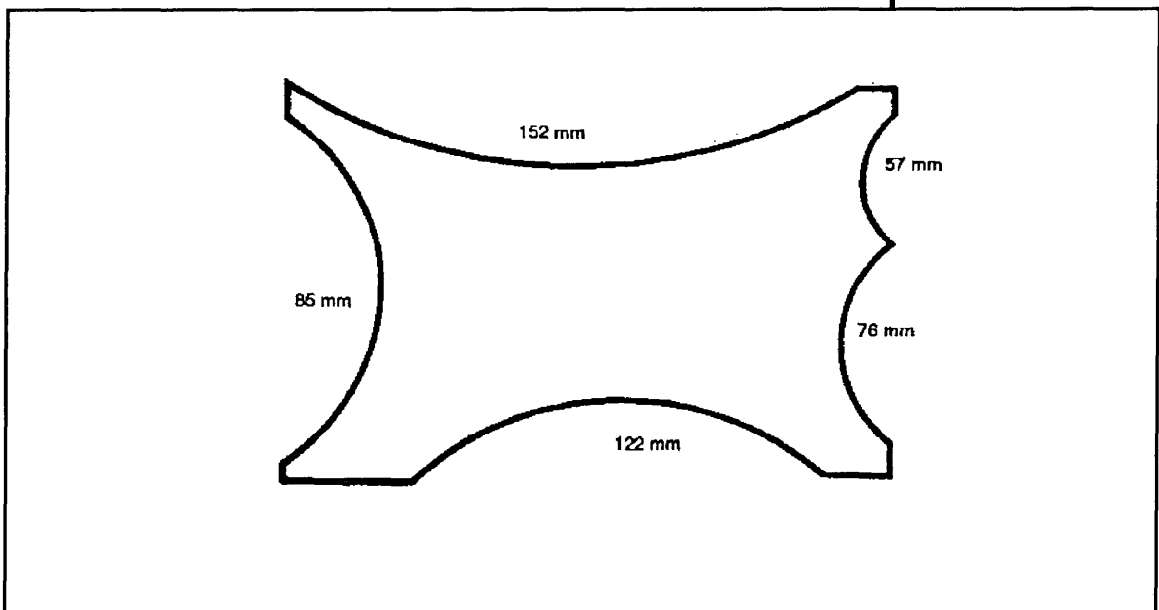

Figure D-1. Curvature template.
b. A curvature template is used to measure the curvature of a fragment to determine the caliber of the shell (Figure D-1). The template can be constructed of heavy cardboard, acetate, wood, or other appropriate material.